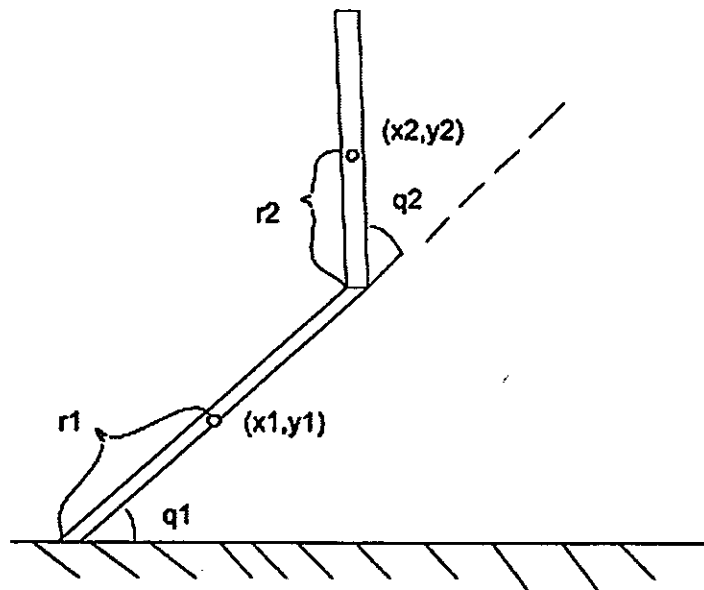

Figure 3.
- (ii) Derive the dynamic equation for a two-link revolute joint arm using the L-E method as shown in Figure 3.